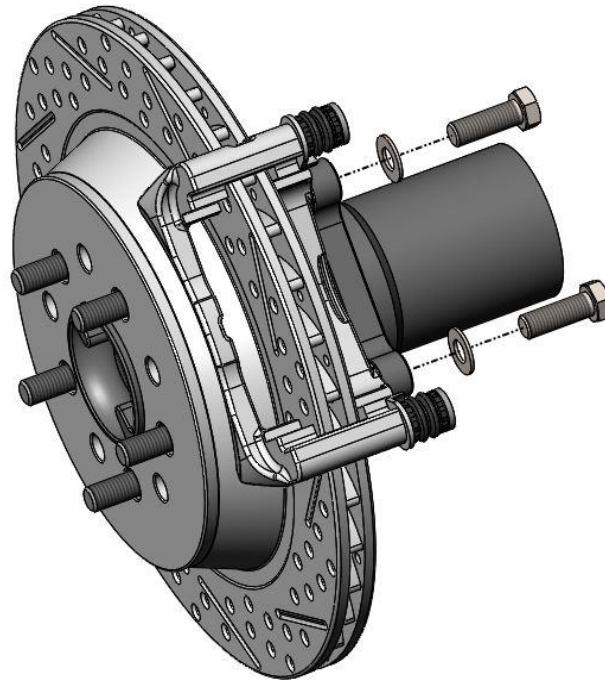

Figure 6 – Installing the Caliper Anchor
9. Remove the Caliper Anchor Bracket from the caliper along with the brake pads. Install the caliper anchor over the rotor and position against the Aluminum Caliper Mounting Bracket. Use the provided M12 Flat Washers and M12-1.75 x 35mm Hex Head Bolts. **NOTE: Do not fully tighten the bolts at this point due to possible removal for shimming. The bolts will be torqued in a later step.** See Figure 6 below for reference.